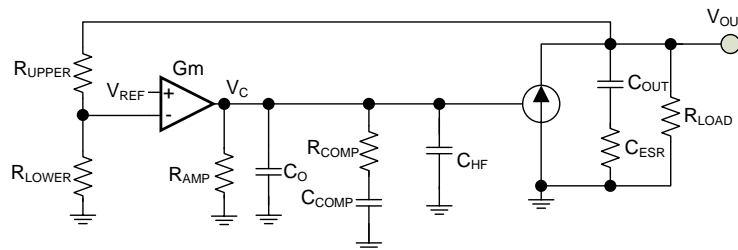

Figure 35. Transconductance Amplifier
A type II compensator using a transconductance error amplifier (EA),  $G_m$ , is shown in Figure 35. The dominant pole of the EA open-loop gain is set by the EA output resistance,  $R_{AMP}$ , and effective bandwidth-limiting capacitance,  $C_O$ , as follows: